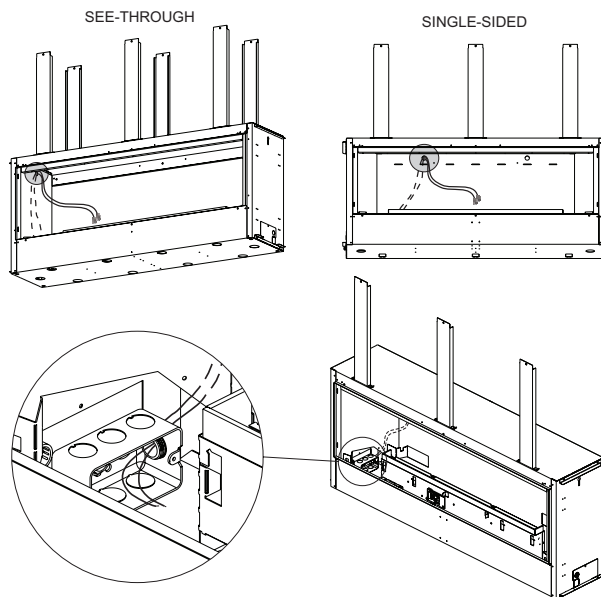

Figure 7
7. Thread wire harness through hole in the rear of the firebox, behind the rear of the firebox and down to the junction box on the bottom left side. **See Figure 7.**